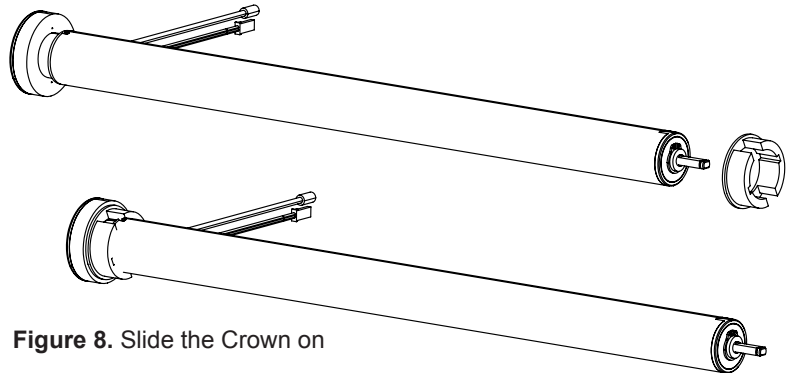

Figure 8. Slide the Crown on
Step 5. Slide the crown onto the motor as shown in **Figure 8**.